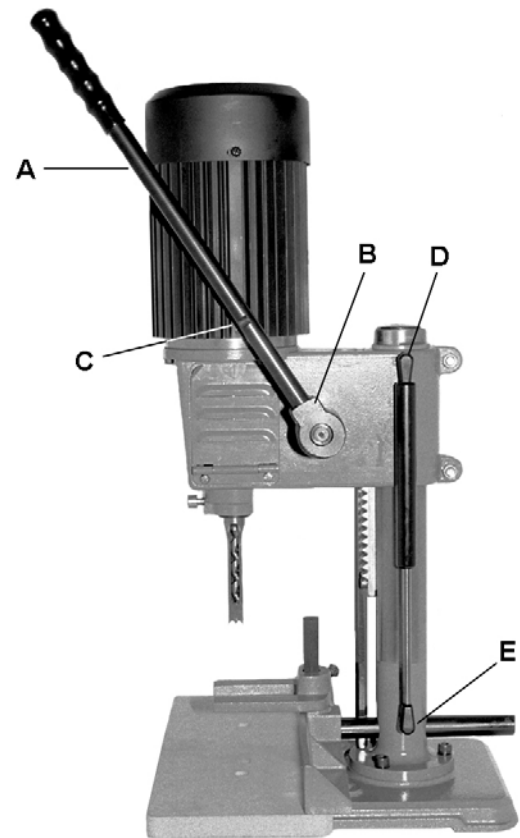

Figure 2
1. Screw the handle (A, Fig. 2) into the pinion shaft (B, Fig. 2).
2. Tighten the handle. The handle has a notch (C, Fig. 2) to accommodate a wrench.
4. With the head in the up position press the hydraulic cylinder onto the two fittings. The upper fitting (D, Fig.2) is located on the head. The lower fitting (E, Fig.2) is on the column.